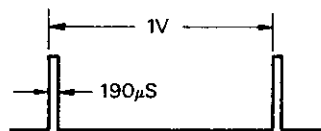

Fig. 82
- ① Connect the oscilloscope probe to TP2.
- ② Adjust VR402 so that the pulse width of the displayed waveform becomes as shown in Fig. 82: